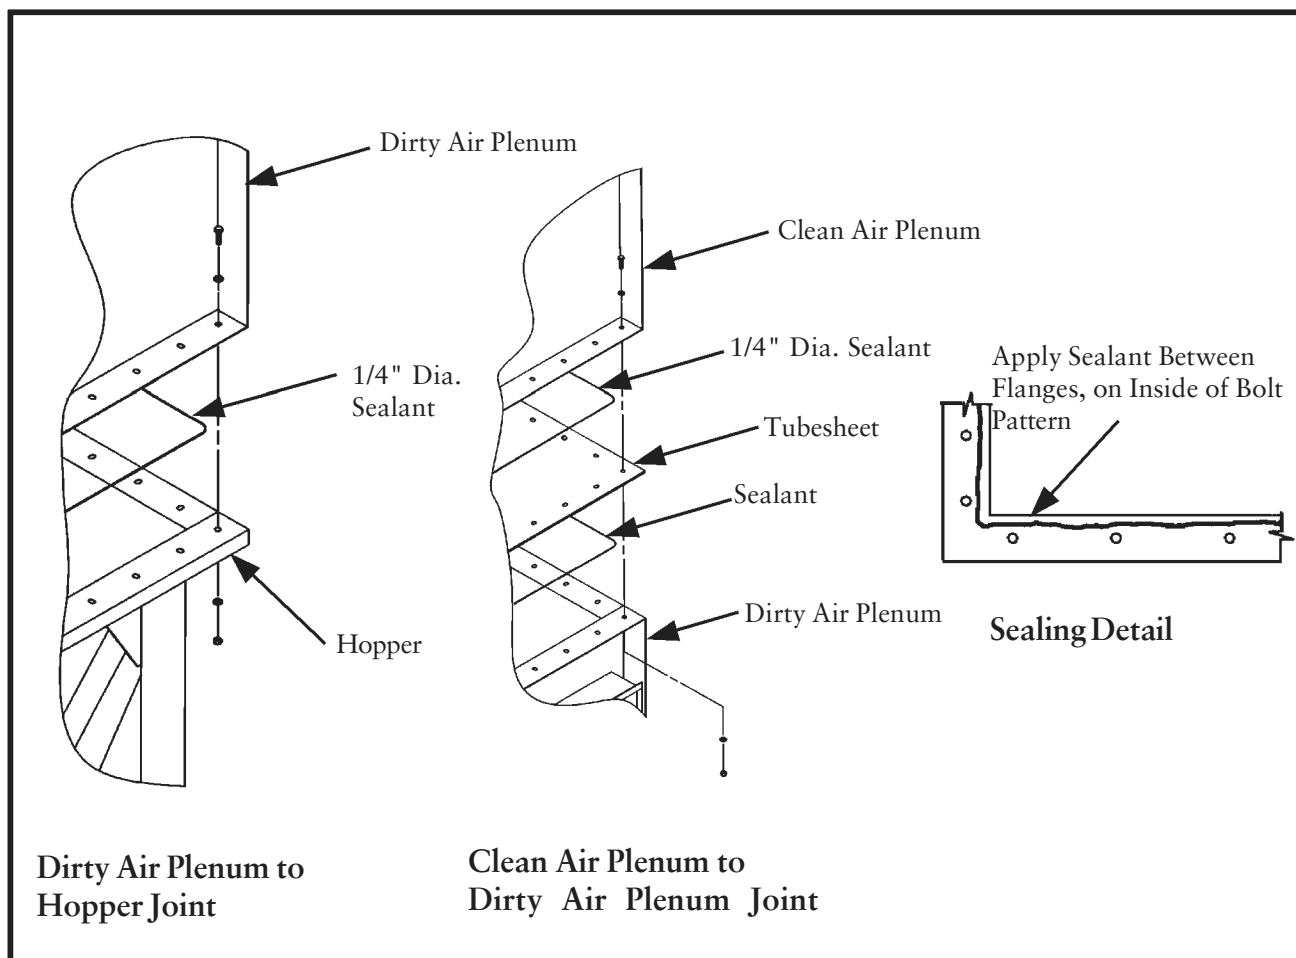

Figure 5
- All flanged connections of components providing air seals, including clean air plenum, tube section, and hopper, must be sealed before assembly with sealant as shown in Figure 5, Sealing Details unless they are factory assembled.
3. Apply 1/4" diameter sealant to the top flange all around toward the inside edge of the bolt pattern (see Figure 5, Sealing Details).
5. Apply 1/4" diameter sealant to the top flange all around toward the inside edge of the bolt pattern (see Figure 5, Sealing Details).
3. Apply 1/4" diameter sealant all around toward the inside edge of the bolt pattern on top of the tubesheet (see Figure 5, Sealing Details).